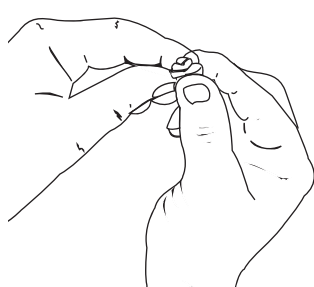

Fig. 27
5. Squeeze the filter to spread and remove excess oil (Fig. 27).